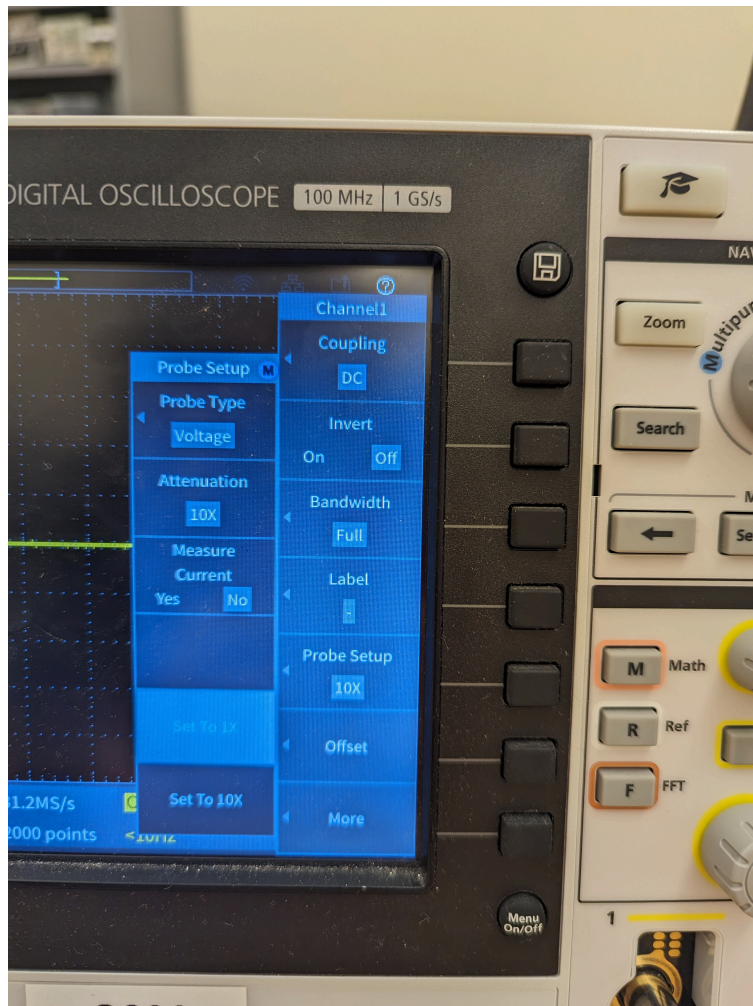

Figure 13: Set Probe Setup to 1x.
2. Press the yellow 1 button to open channel 1's menu, and set the *Probe Setup* setting to 1x (see Figure 13). Repeat this for the other 3 menus.